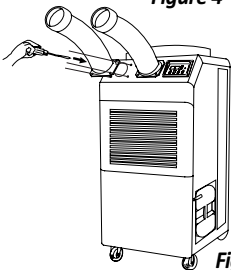

Figure 6
3. Use screws (enclosed inside of box with cool air outlet hose(s)) to install the cool air outlet hose(s) on the air conditioner as shown in Figure 6.